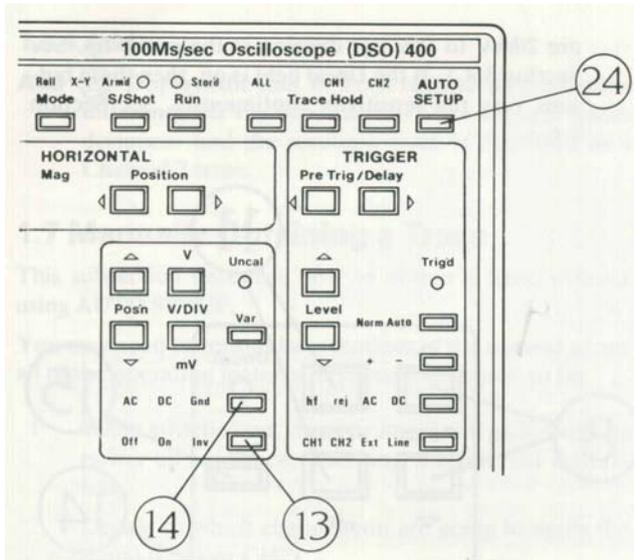

Figure 1.4 Obtaining a Trace
1.4 Obtaining a Trace See Figure 1.4